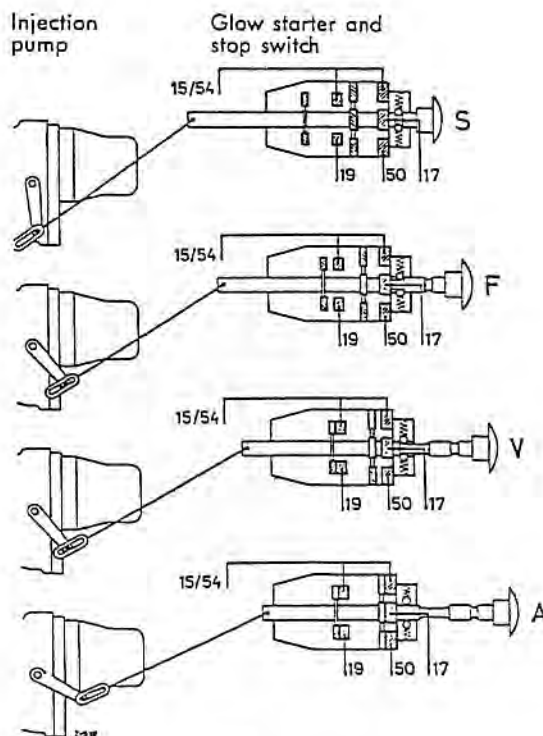

Fig. 00-10/1
2. Depress button of push/pull switch (stop position) and have an assistant check the position of the adjusting lever controlling the injection pump. In this position, the adjusting lever must be pushed completely forward (Fig. 00-10/1, S = stop position, and Note para 6).
3. Pull button of push/pull switch through slight resistance into extreme stop position (starting position) and have an assistant check the position of the adjusting lever controlling the injection pump. In this position, the pin of the adjusting lever must come to rest against the far end of the eye (as opposed to the near end in stop position), with the adjusting lever completely pulled back (Fig. 00-10/1, A = starting position).
4. Release button of push/pull switch; switch is spring-loaded and will automatically return to driving position. In both driving and pre-glowing position, the pin of the adjusting lever must remain clear of the eye ends with a minimum clearance of 2 mm (Fig. 00-10/1).